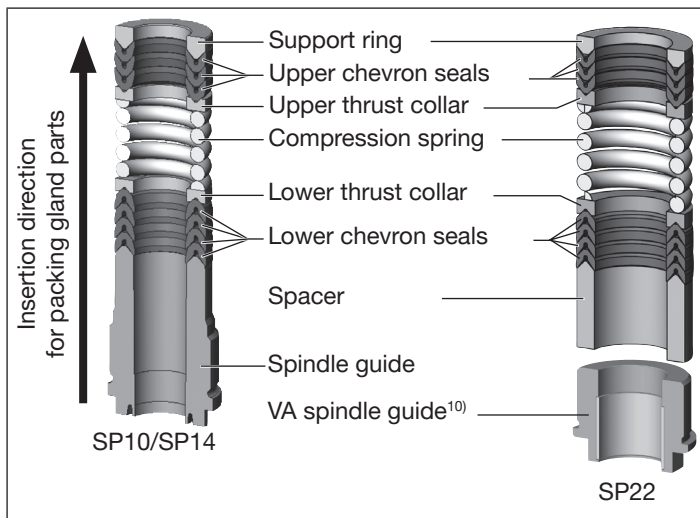

Fig. 34: Seal set for packing gland
- Place individual parts on the spindle in the specified direction and sequence (as shown in “Fig. 34: Seal set for packing gland”).